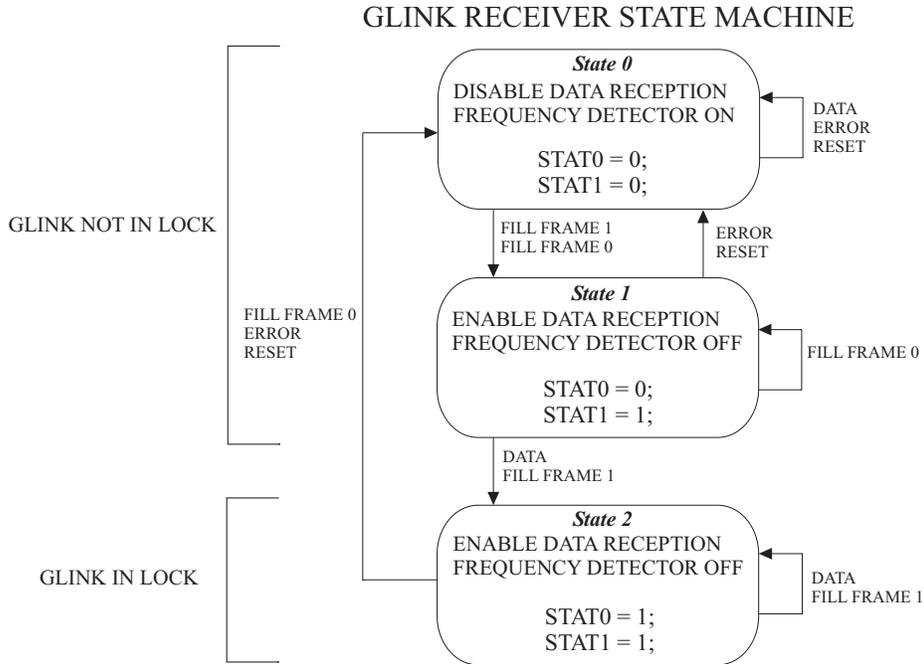

Figure 2.5, G-Link Receiver State Machine
Handshake protocol between the FFO and the SRC during the "lock acquisition" phase (using the 4-bit Status Cable) has not been defined yet. The Status cable is only used to send error information to the SRC as set in the Error Mapping Registers. Regarding the optical link, it's important to know that there are two types of fill frames the G-Link Transmitter can send, fill frame 1 and fill frame 0; refer to Figure 2.5 or to [Ref.8, 9, 10, 11, 12]. If the optical link lock is lost at any time the FFO will return in Initialize mode.
2. The SRC G-Link transmitter starts sending "fill frame 1's" when the Fanout's G-Link Receiver state machine (see Figure 2.5) switches from state 0 to state 1 and then state 2. When the G-Link receiver state machine is in state 2 the G-Link is considered "in lock" and the G-Link Receiver has set the "link ready" signal.
- 2 The G-Link transmitter starts sending "fill frames 1". The Fanout's G-Link Receiver state machine (see Figure 2.5) switches from state 0 to state 1 and then to state 2. When the G-Link receiver state machine is in state 2 the G-Link is considered "in lock" and the G-Link Receiver sets the "link ready" signal.